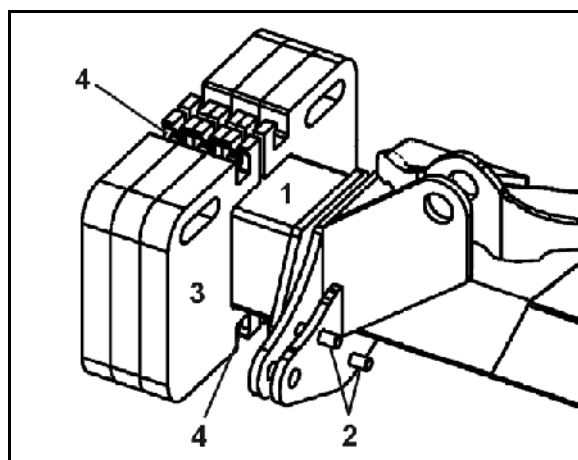

Fig. 30
1. Mount the holder tube (Fig. 30/1) with four-screws (Fig. 30/2) on the outside of the boom.
2. Screw two additional weights (Fig. 30/3) onto each holder tube (Fig. 30/4) and secure.